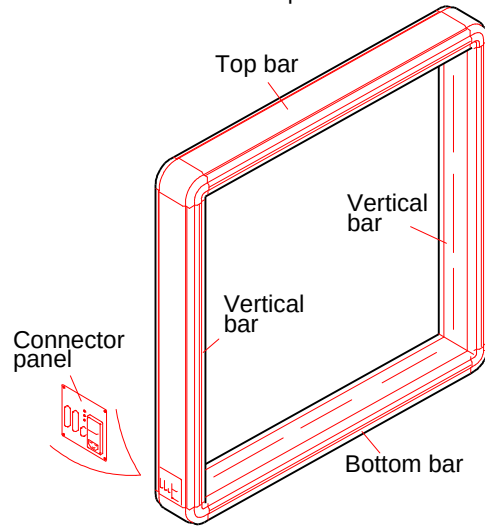

Figure 1. CS5000 Frame
The CS5000 Frame is made out of four pieces of extruded Aluminium-profiles, with aluminium corners. These pieces are referred to as bars. See figure 1.
- Bottom bar must always be mounted on the bottom (please see figure 1).